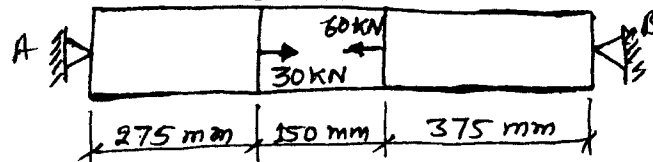

Fig.Q.1(c)
c. Determine the reactions at the two ends of the bar if the diameter is 25mm and modulus of elasticity is 200 GPa as shown in the Fig.Q.1(c). (06 Marks)